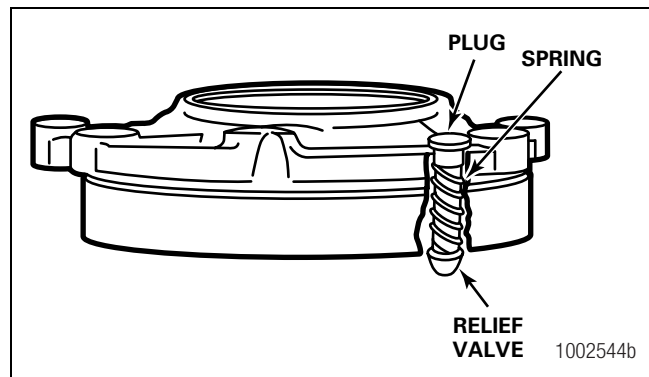

Figure 5.72
- D. If removed, install the pressure relief valve assembly into the input bearing cage. Install the relief valve, spring and plug into the bore. Tighten the plug to 20-40 lb-ft (27-54 N•m). Figure 5.72. 🔩